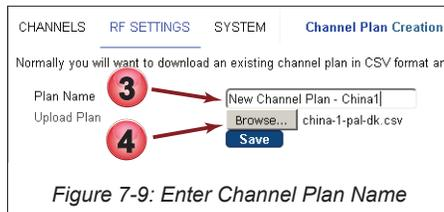

Figure 7-9: Enter Channel Plan Name
3. Enter the **Plan Name** for the new plan, Figure 7-9. This name identifies the plan in the UI only.